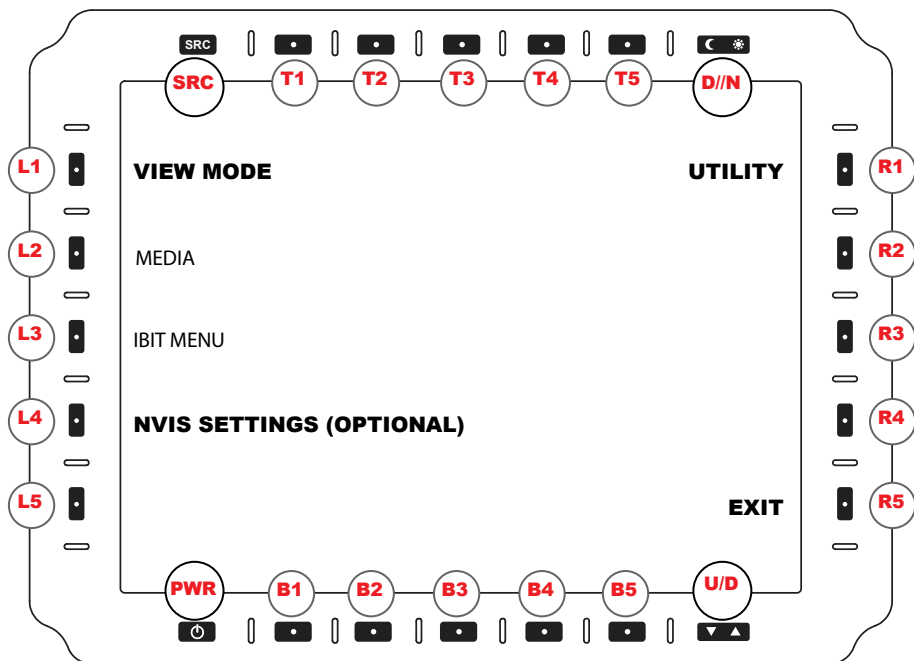
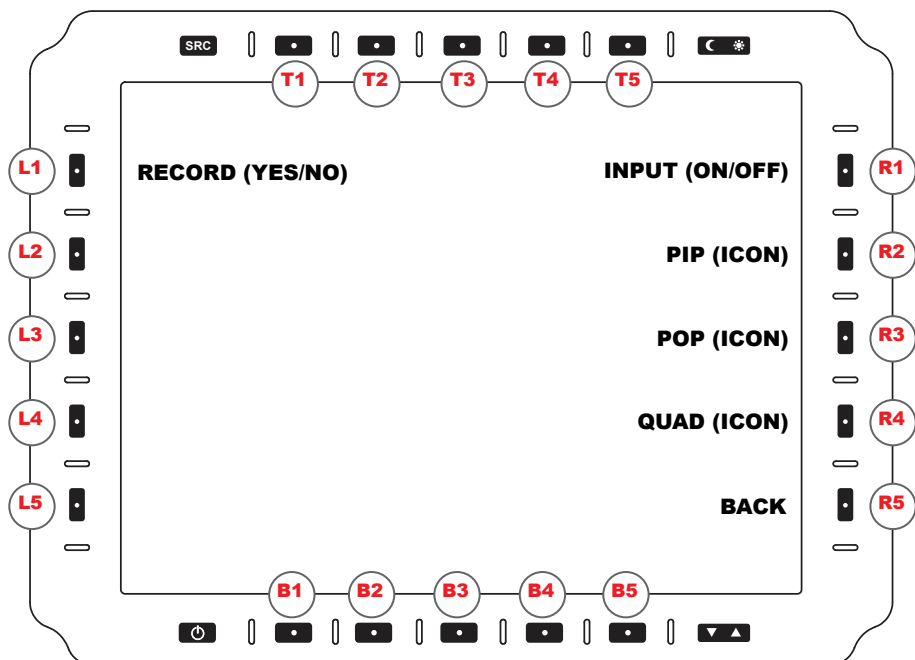

Figure 8
Figure 9
Several User Menus are factory-set in the PSM. To access the Main Menu (Figure 8) which allows access to PSM's submenus, hold down the SOURCE key for three (3) seconds (top row, far left).
The SOURCE Key (SRC) is located on the top row of softkeys, first key on the left, as indicated in Figure 8. Other softkeys are explained in other sections of this User Manual.
View Mode Menu is dedicated to selecting specific video settings for each physical port. View settings are independent of each other. View Mode Menu (Figure 9) is accessed from L1 in the Main Menu (Figure 8). Video Scaling Options (R1 - 4 Keys) are linked from the View Mode Menu.
BACK (R5). Returns to Main Menu (Figure 8).
**BACK (R5).** Returns to Main Menu (Figure 8).
**EXIT (R5).** Returns to Main Menu (Figure 8).
- To Exit, select Exit key (R5); returns screen to Main Menu (Figure 8).
**BACK (R5).** Returns to Media Menu (Figure 8).